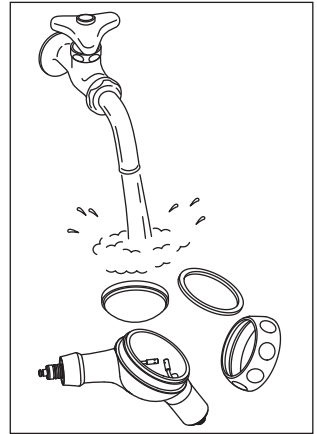

Fig.14
3) Wash away the cleaning powder adhering to the inside of the powder case/powder case cap under running water. (Fig. 14)